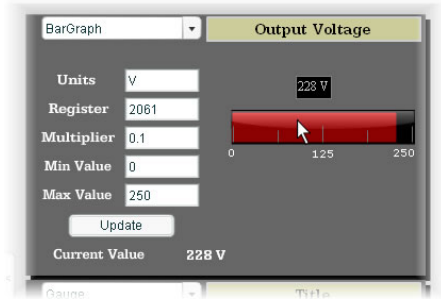

Figure 58: BarGraph
**BarGraph:** Refer to Figure 58. This type of meter implements a linear bar graph display format. Hovering the mouse pointer over the red portion of the graph pops up a tooltip which displays the current indicated value and units.